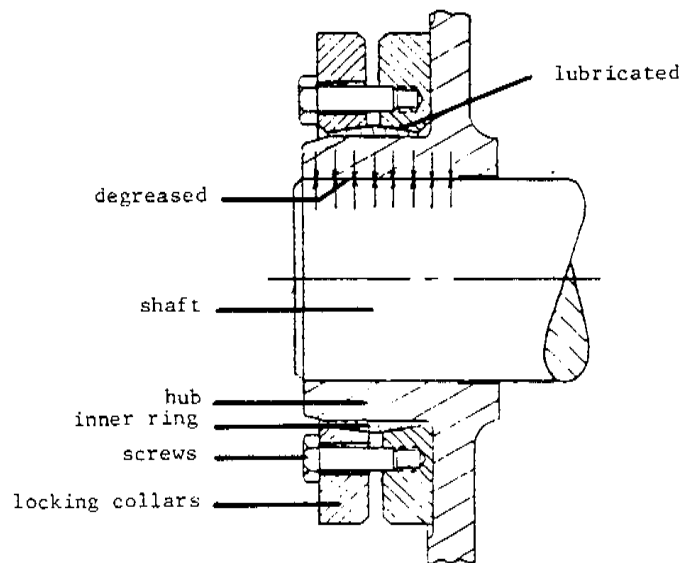

FIGURE 21
- a. Refer to Figure 21 for lubrication points. Do not lubricate the gear bore or eccentric shaft outside diameter.